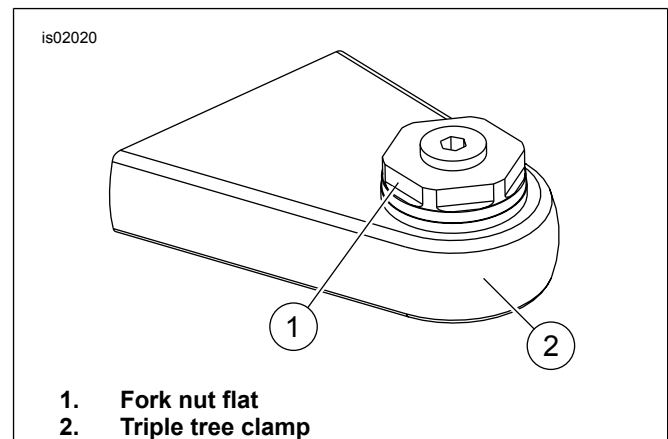
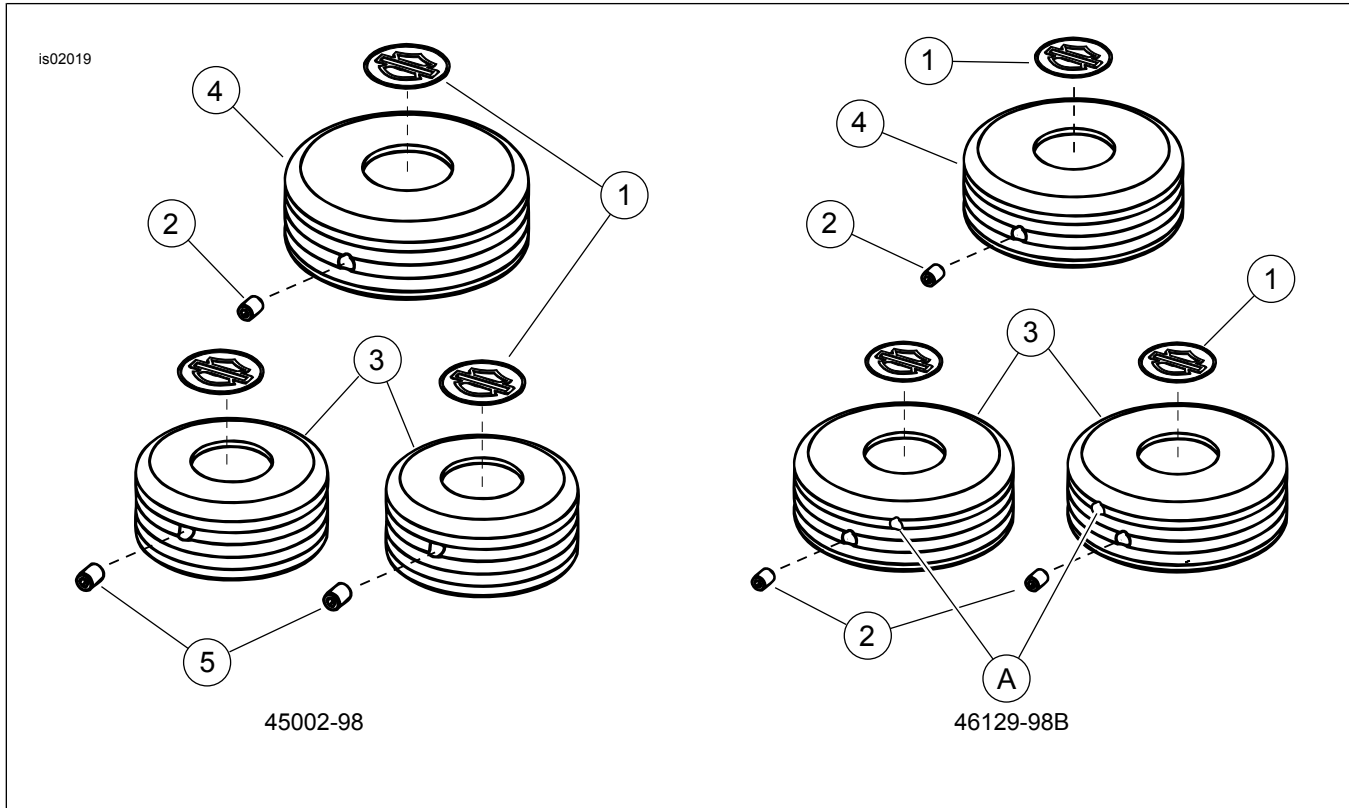

Figure 1. Fork Nut
Figure 2. Service Parts: Fork Tube And Stem Cover
See Figure 2 and Table 1.
1. See Figure 2. Place smaller slider tube cap covers (3) over slider tubes. Apply Loctite 243 blue to the two 3/16 inch long set screws (5).
2. See Figure 1. Tighten 3/16 inch set screws until the covers are secure. The set screws must tighten against the flat (1) of the fork nut as shown.
3. See Figure 2. Place larger fork stem nut cover (4) over fork stem nut. Apply Loctite 243 blue to the remaining 1/4 inch set screw (2). Tighten 1/4 inch set screw against fork nut flat until cover is secure.
4. Remove adhesive backing from logos (1). Place logos in desired orientation on covers. Press firmly into place to activate the adhesive.
1. See Figure 2. Place larger slider tube cap covers (3) over slider tubes. Apply Loctite 243 blue to two of the 1/4 inch long set screws.
2. See Figure 1 and Figure 2. Choose the appropriate set screw hole depending on height of fork nut from top of triple tree clamp. Tighten 1/4 inch set screws (2) until the covers are secure. The set screws must tighten against the flat of the fork nut as shown in Figure 1. On FLSTC and FLSTF models, use set screw hole shown in Figure 2.
3. See Figure 2. Place smaller fork stem nut cover (4) over fork stem nut. Apply Loctite 243 blue to the remaining 1/4 inch set screw. Tighten 1/4 inch set screw against fork nut flat until cover is secure.